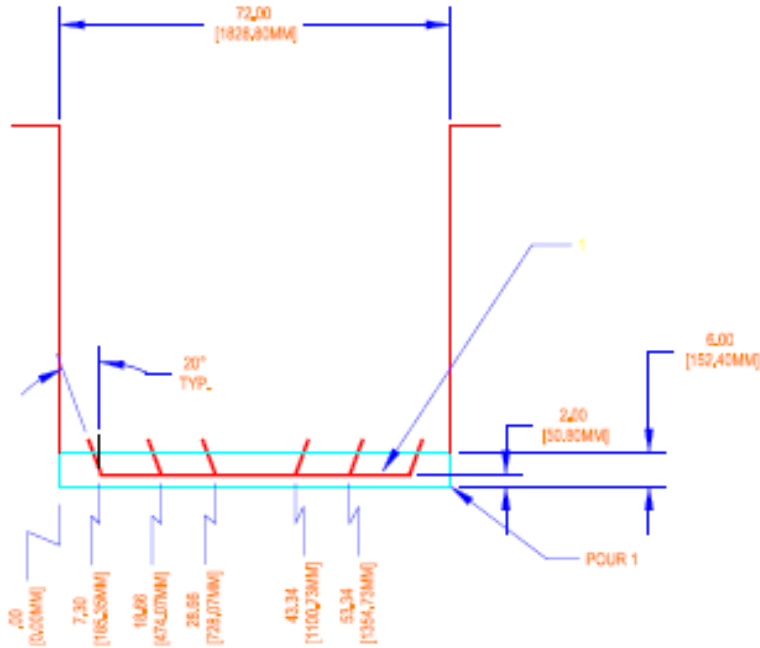

Figure 5 - Side View Bollard Base Pad
*Refer to Figure 5 – First Rebar Cage / Base Pad form.